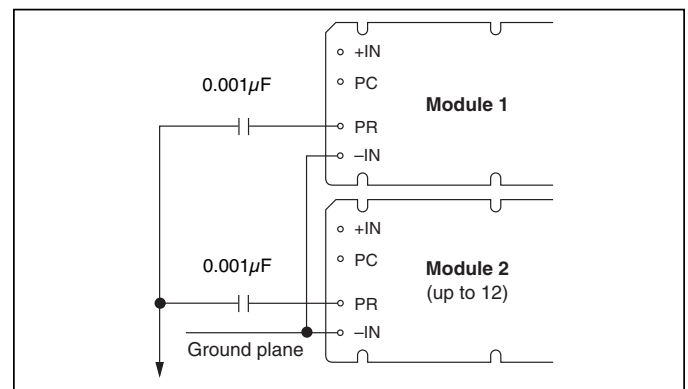

Figure 10 — AC coupled single-wire interface.
**AC coupled single-wire interface.** All PR pins are connected to a single communication bus through  $0.001\ \mu\text{F}$  (500 V) capacitors. This interface supports current sharing and is fault tolerant except for the communication bus. Up to three converters may be paralleled by this method. See Figure 10.